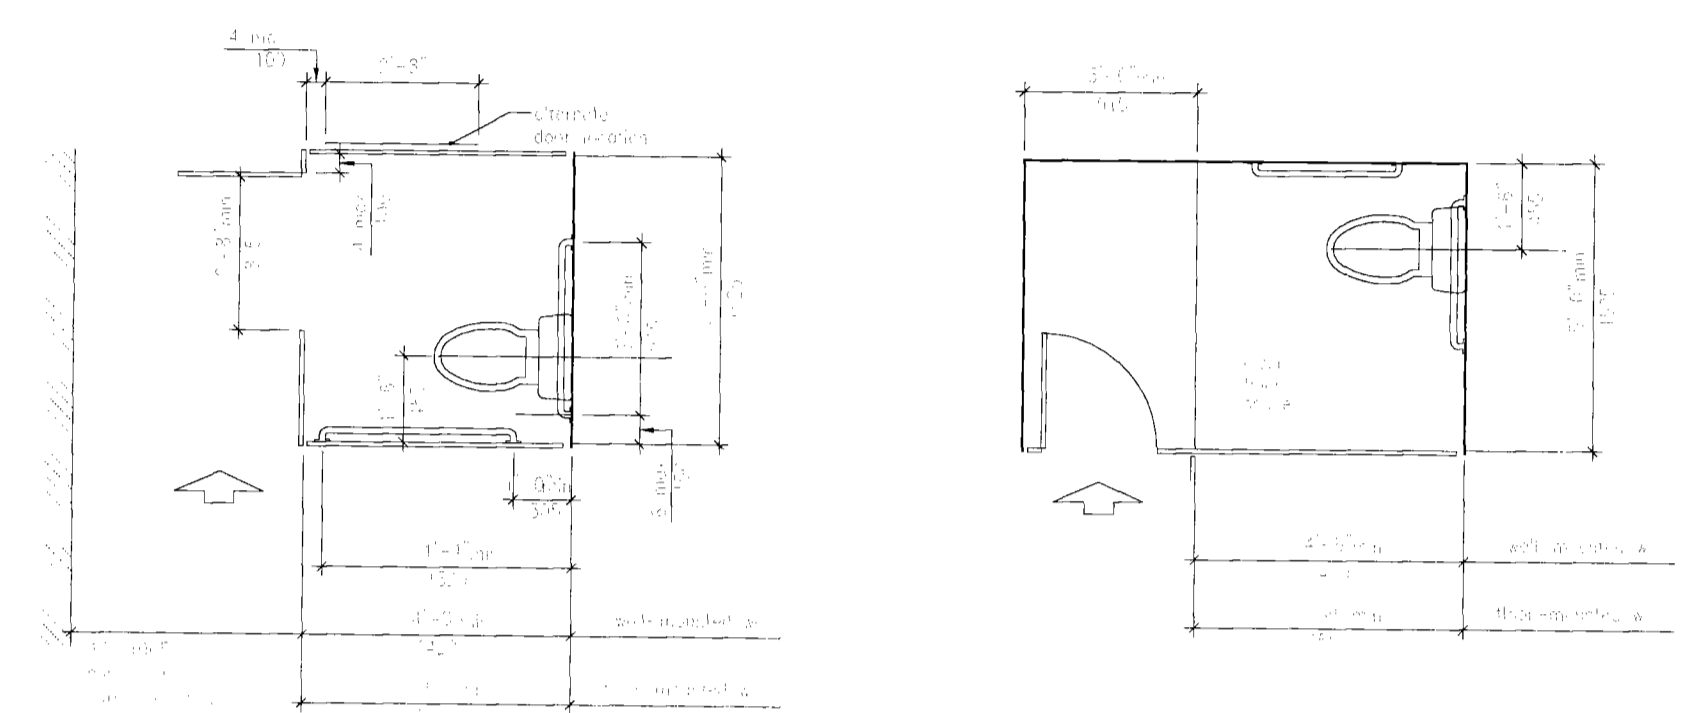

Fig. 31
a. LAVATORIES SHALL BE MOUNTED WITH A CLEARANCE OF 29" FROM THE FLOOR TO THE BOTTOM OF THE APRON, KNEE AND TOE CLEARANCE TO COMPLY WITH FIGURE 31